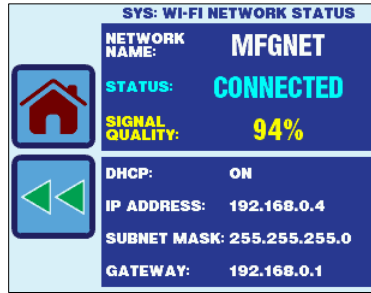

Figure 45 – Wi-Fi Network Status Screen
**Network Status** -.The Network Status screen displays the current network connection status, signal strength, DHCP configuration, and IP addresses as shown in Figure 45.